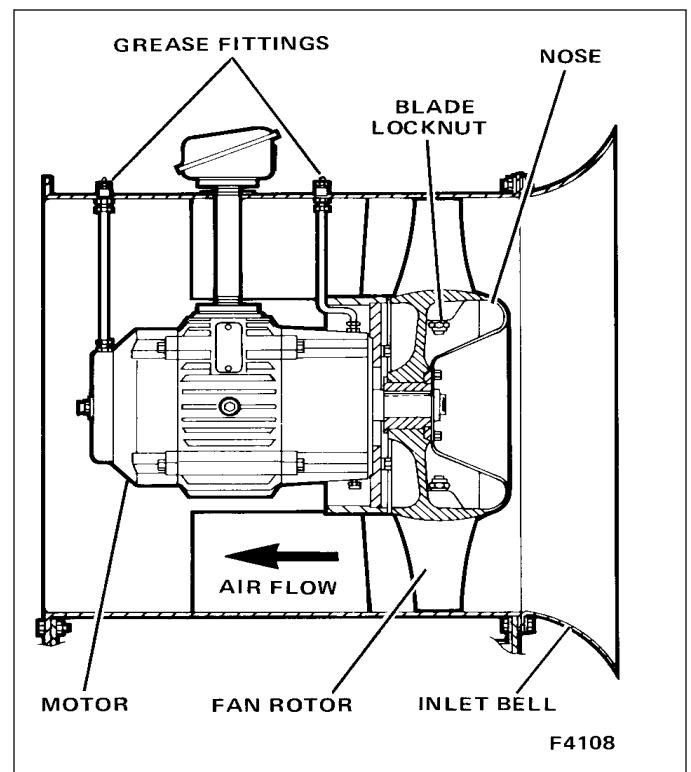

Figure 2-4. Blade Pack Removal
3. Grasp each of the blade packs and pull them forward out of the cell (see Figure 2-4).